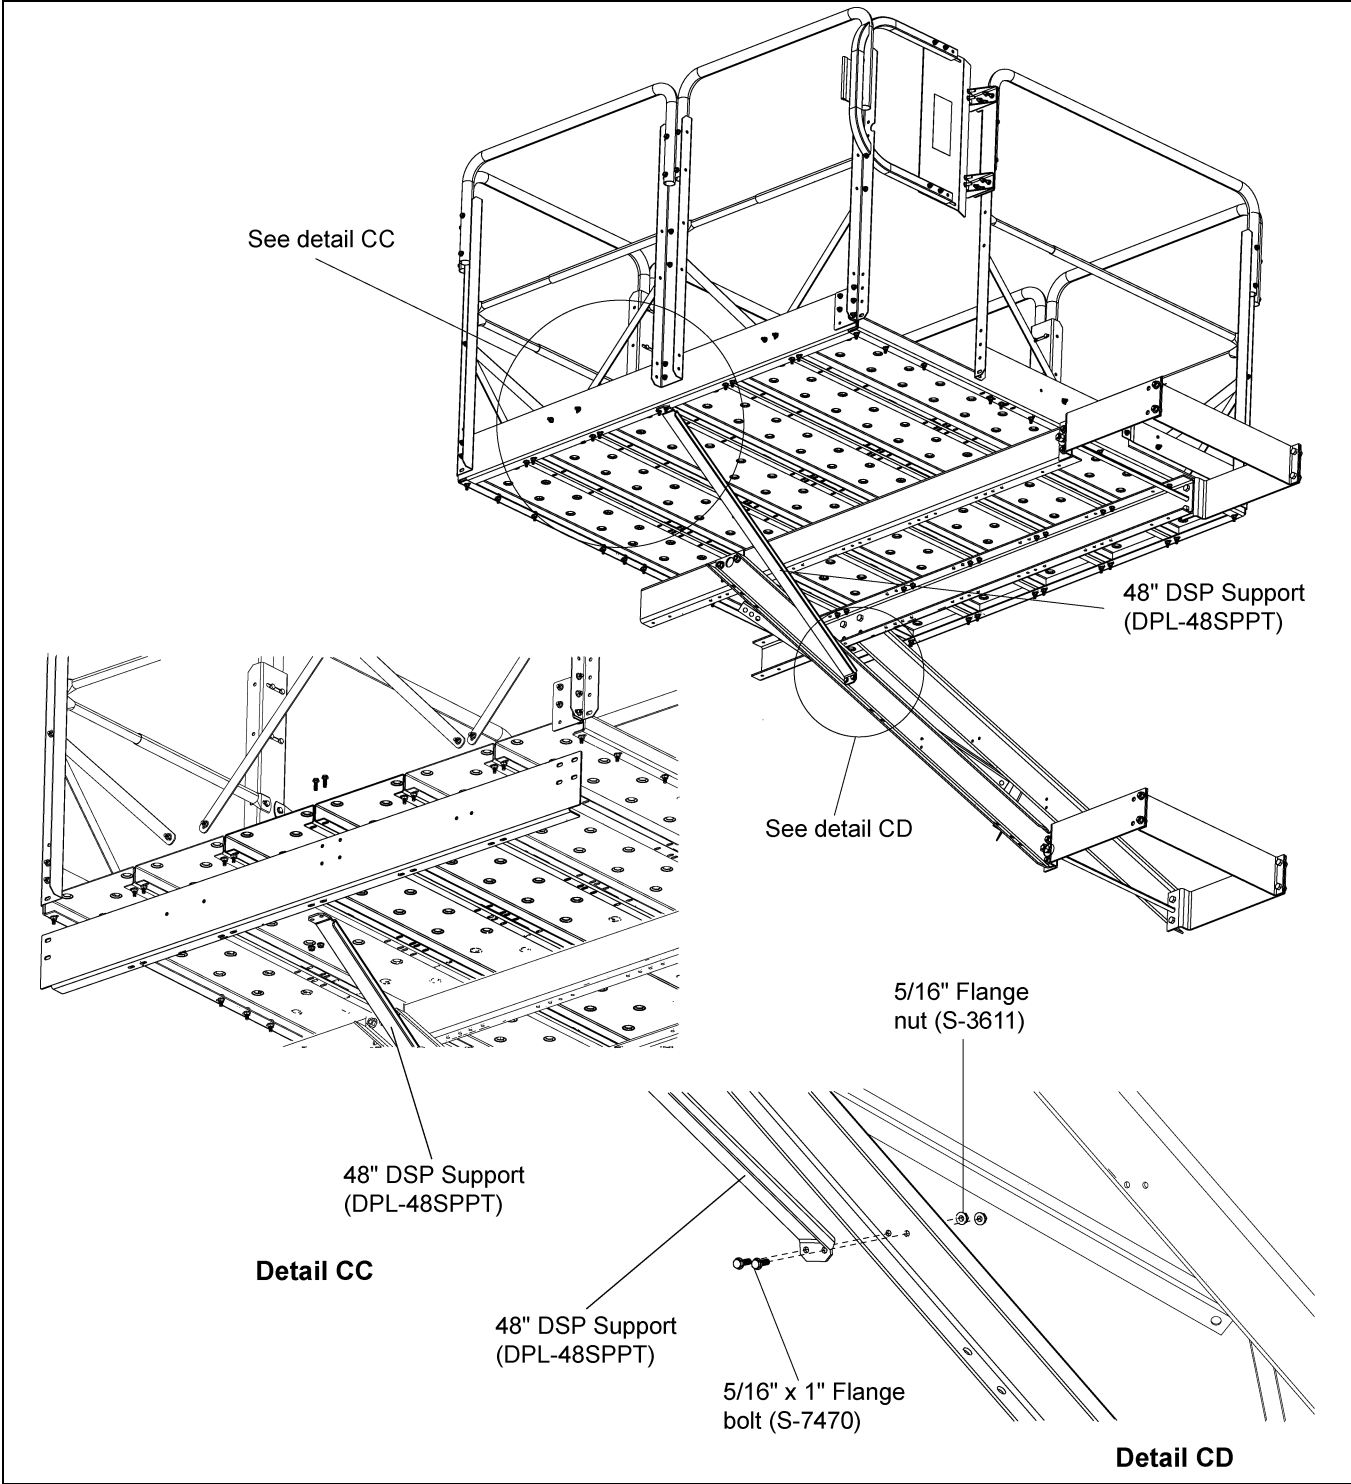

Figure 10T
- 3. Use 5/16" x 1" flange bolt (S-7470) and 5/16" flange nut (S-3611) for all connections. (See Figure 10T.)